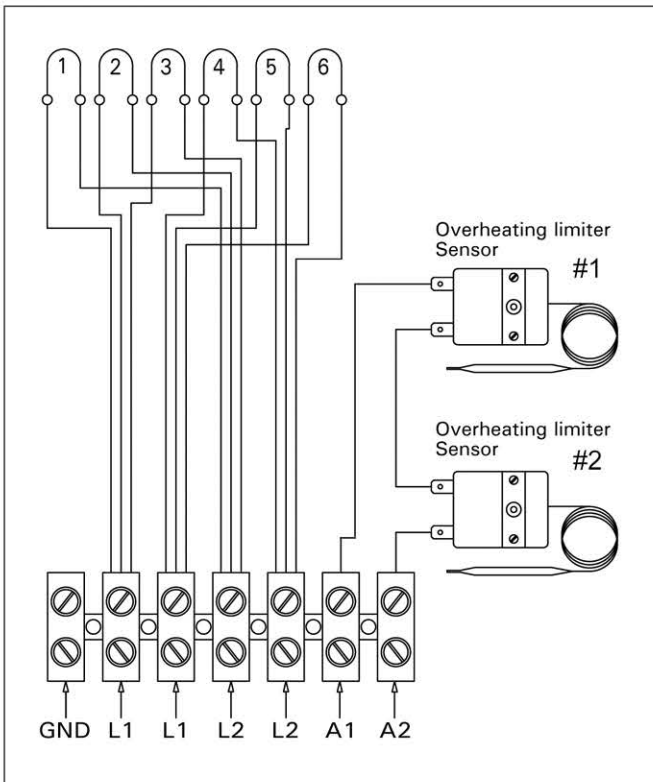

Figure 8. Electrical connections of 240 V 1-phase heaters (K10G-U1, K12.5G-U1, K15G-U1)
2. See applicable wiring diagram for heater model (figures 8–9, see control unit manual for detailed instructions how to connect the heater and the control unit). Heater must be permanently installed (no pigtailed or plugs allowed) and wiring must be done by a licensed electrician, who must follow wiring diagram provided and adhere to local codes. Use proper A.W.G. rated wire size and use copper wire suitable for 90 °C within sauna walls. Use grounding terminals provided in sauna heater and control unit to properly ground the equipment as per NEC and local codes.